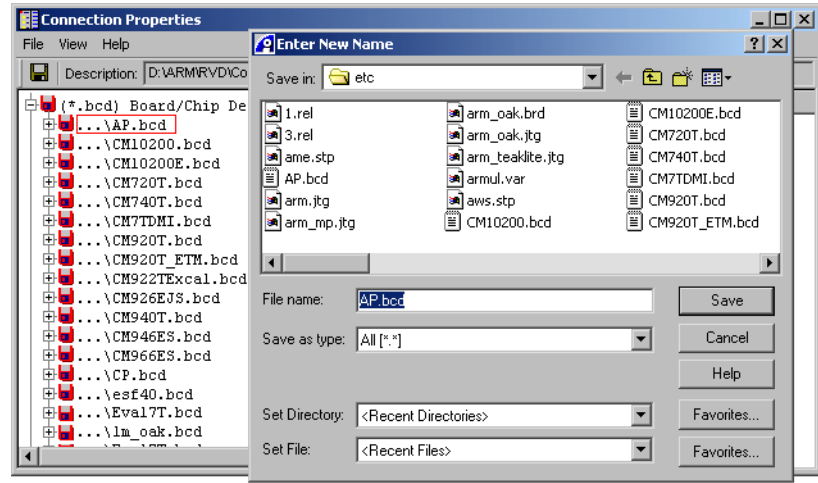

Figure 13-12 Saving an existing .bcd file with a new name
4. Select **Save As...** from the context menu, to display the dialog box shown in Figure 13-12 on page 13-16.